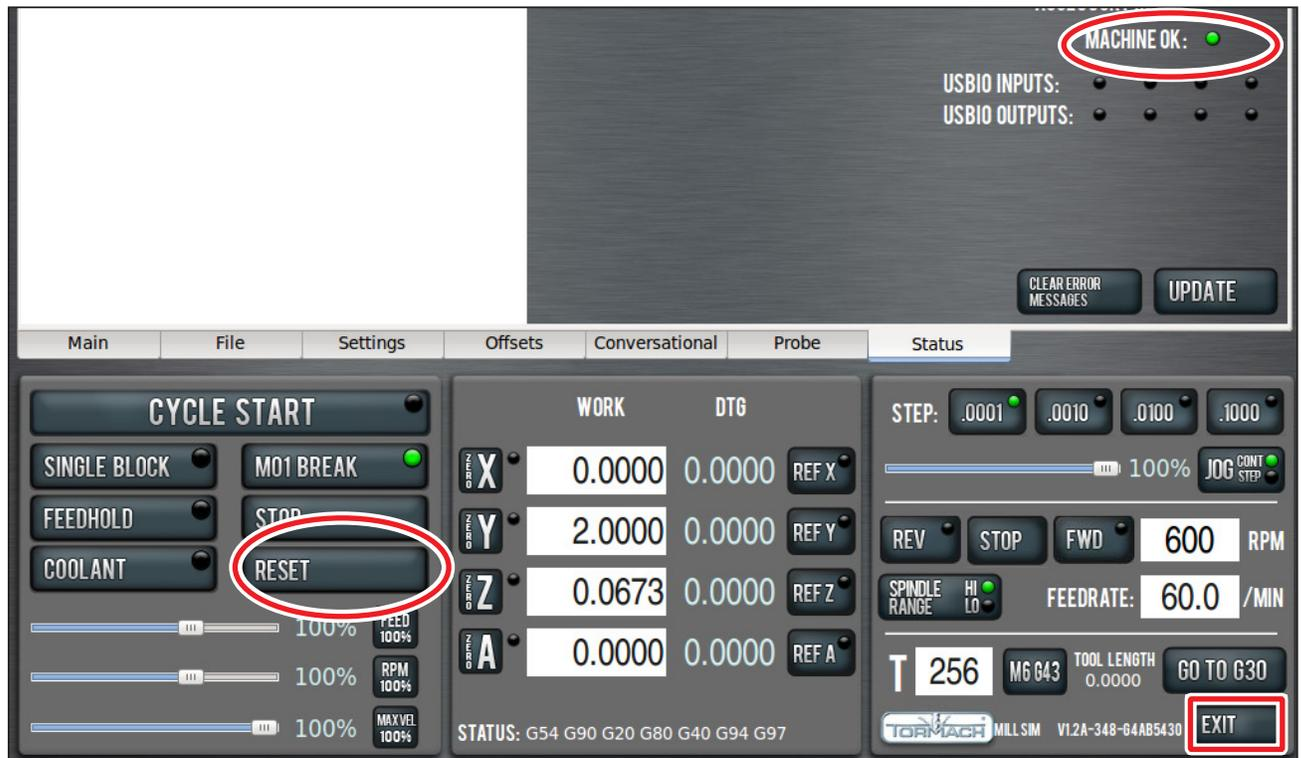

Figure 3.17
Click the PathPilot interface's *Reset* button to establish communications between controller and mill (see **Figure 3.17**). The *Controller* LED on the operator panel indicates when communication has been established.
**IMPORTANT!** Do not power on motors and drives via the green Start button before powering on the controller that oversees their operation. Make sure that the controller is on and the PathPilot interface is loaded before powering on the mill. Likewise, make sure to depress the red E-stop before powering off the controller using the Exit button on the PathPilot interface (see **Figure 3.17**). Confirm that the mill powers off and on correctly using the procedure detailed in this section.